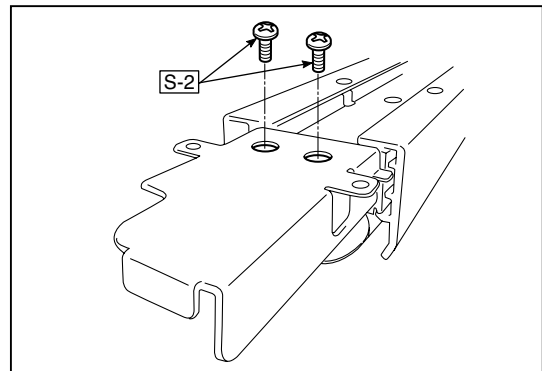

Fig.18
2.Remove the “S-2” screws shown in the figures18 and 19 and then remove the CIS Unit.